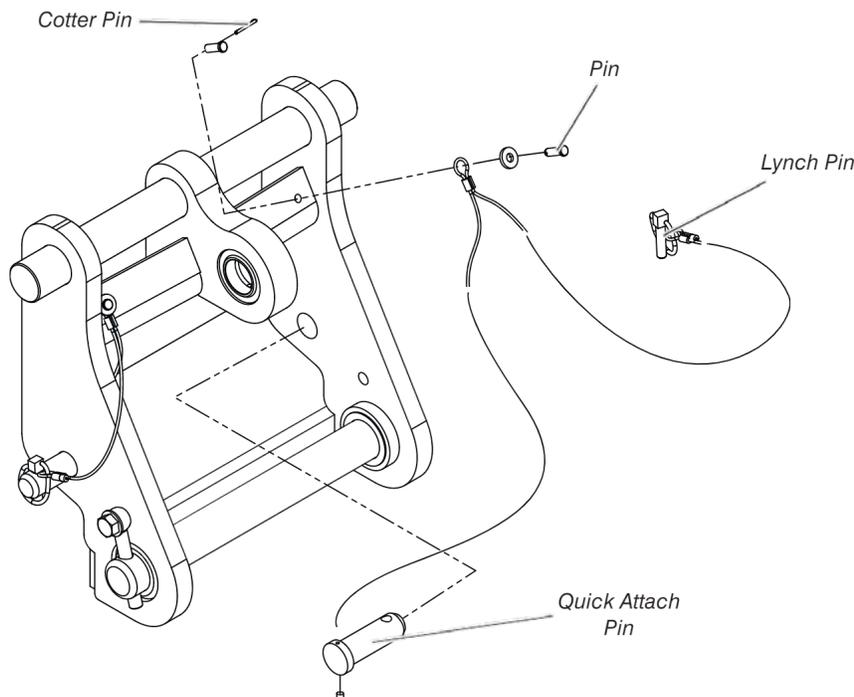

Figure 47 Quick Attach Feature
1. Fasten the tethered pin assemblies to the apron using the pins, washers, and cotter pins. See Figure 47.